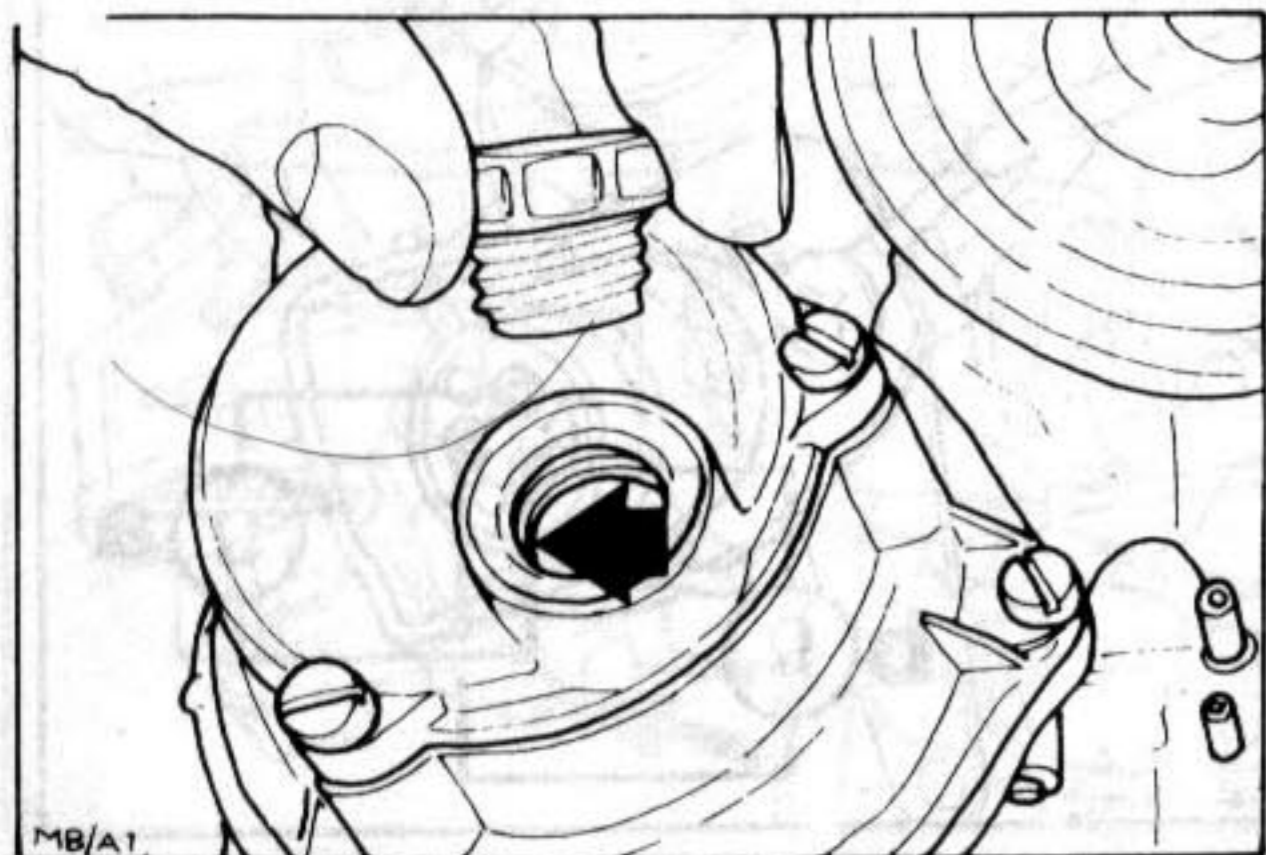

Fig. 1 Checking damper oil level
- Oil level in damper reservoir up to bottom edge of threads at filler hole (Fig. 1). Engine oil; ATF - 20°C.